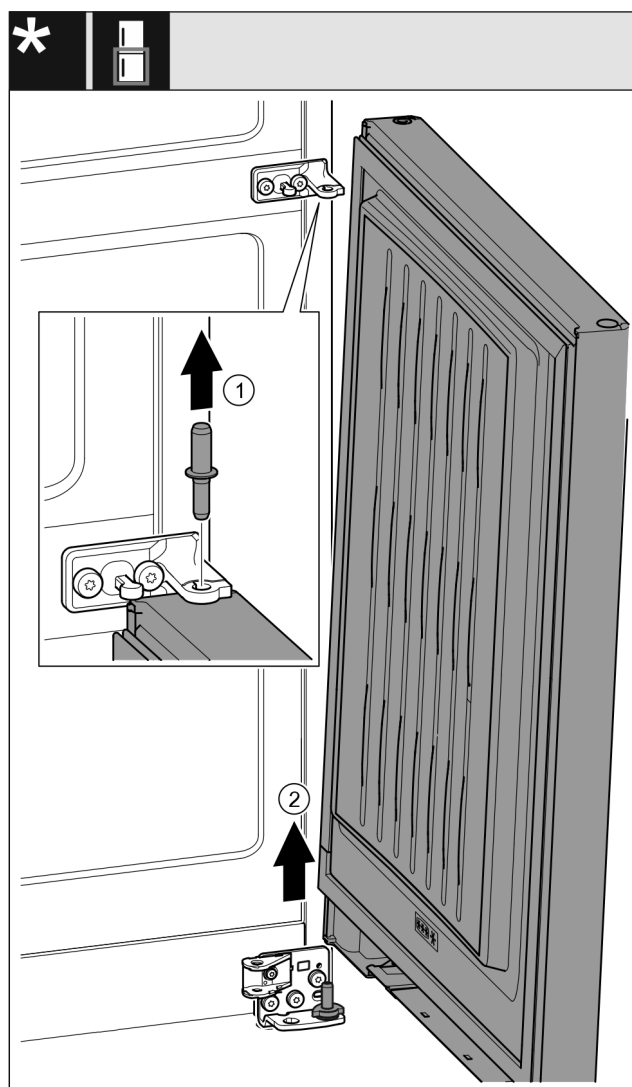

Fig. 21 *
- Pull out the bolts toward the top. Fig. 21 (1)*
- Swing the door out, pull it upward and set it aside. Fig. 21 (2)*